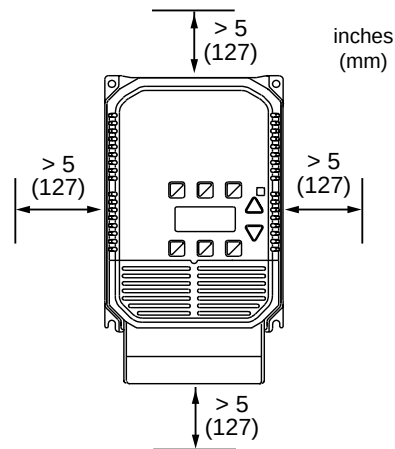

Figure 6: Minimum Clearances
4. The E-trAC X2C Series inverter generates heat. Allow sufficient space around the unit for heat dissipation. See Figure 6 for required minimum clearances.